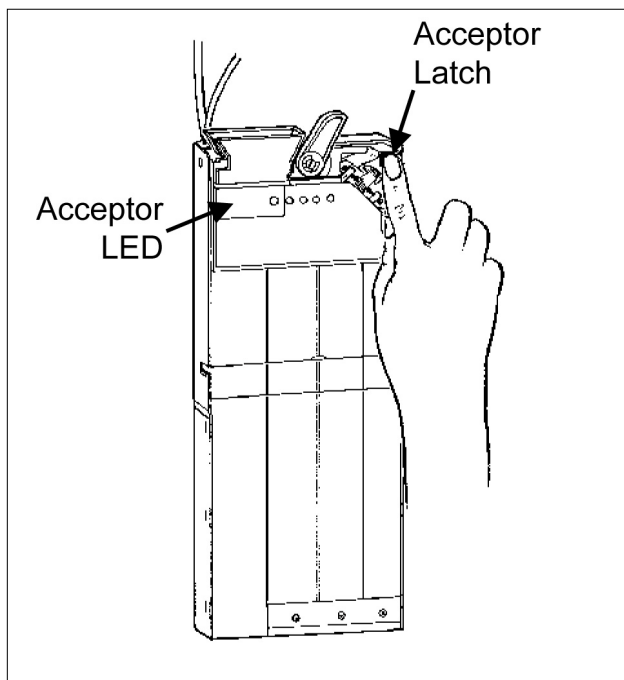

Figure 1
2. Remove the acceptor from the changer by releasing acceptor latch and rotating the top of the acceptor forward, away from changer (see Figures 1 and 2). Unplug ribbon cable from changer. Free acceptor studs from changer housing. Place the acceptor in a clean area.